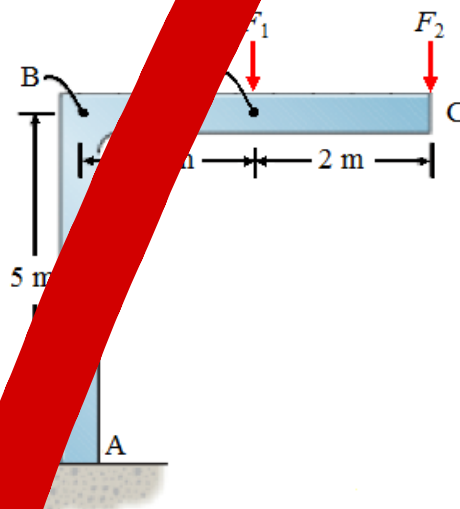

Figure 1
1. The frame shown in Figure 1 is made of two segments: segment AB of length 5 m and BC of length 4 m. The flexural stiffness $EI = 10^5 \text{ Nm}^2$ is constant for both segments. If the frame is subjected to point load $F_1 = 50 \text{ N}$ and $F_2 = 100 \text{ N}$ as shown, determine the rotation at point C (in rad). Use unit load method. Consider only bending effects.